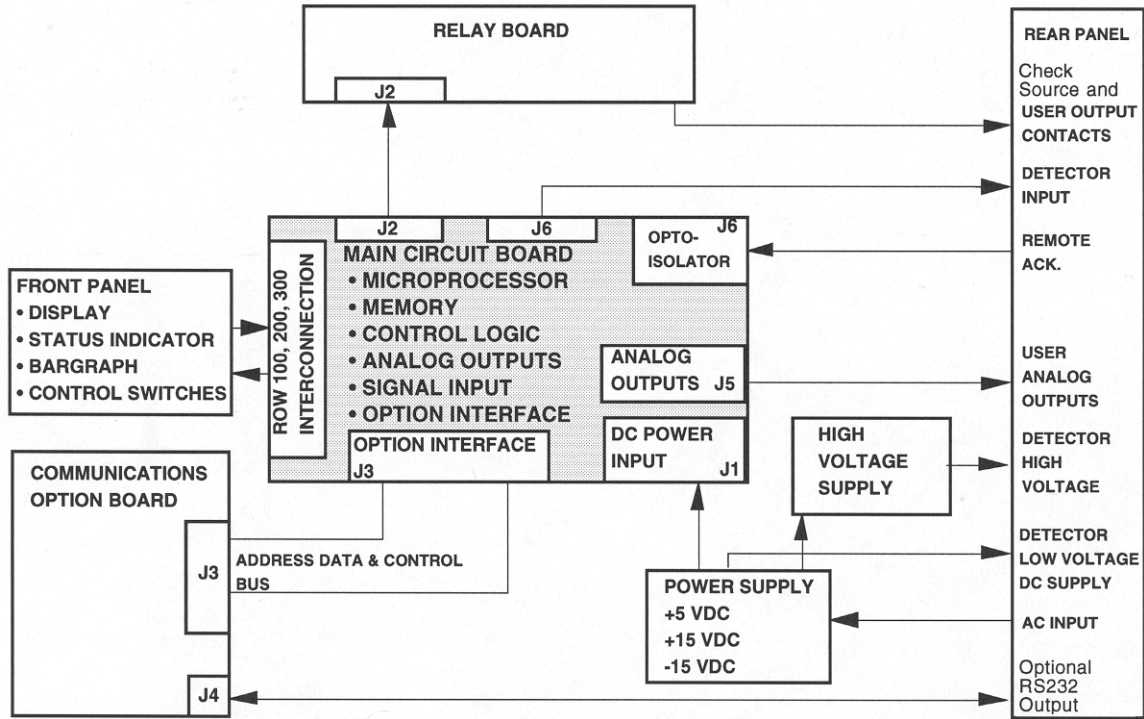

Figure 3-2. System Block Diagram
The Model 956A-201 UDR is composed of five (5) circuit board assemblies mounted within the unit. These circuit boards provide input/output, display, power, and control for the UDR. Each circuit board is described in detail in the following sections and accompanied by a block diagram where applicable. Schematic diagrams are located in Appendix B. Figure 3-2 is the system block diagram.